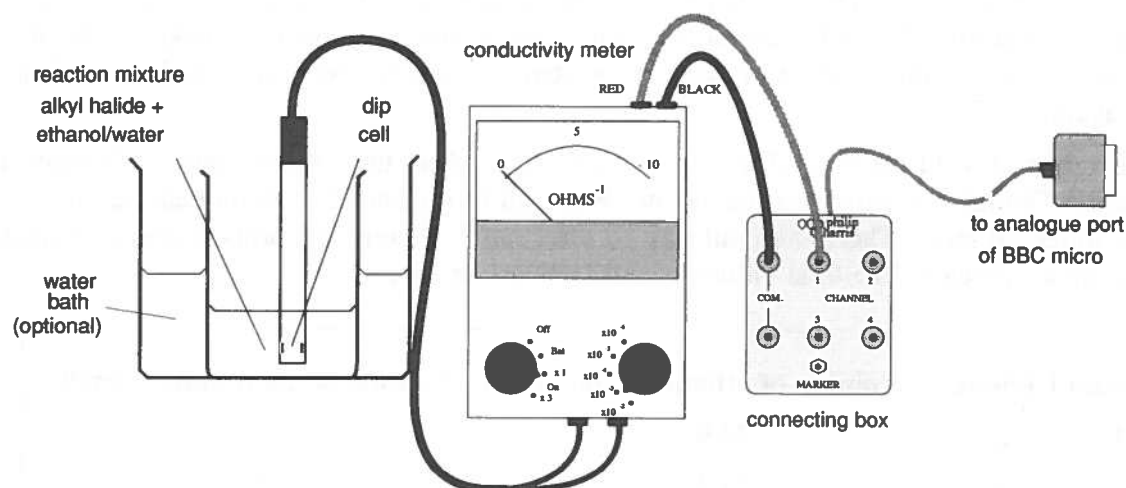

Fig.3 - Datalogging conductivity
2. Set up the apparatus as in Fig.3. Adjust the conductivity meter to the 1 x 10⁻³ Siemens scale.